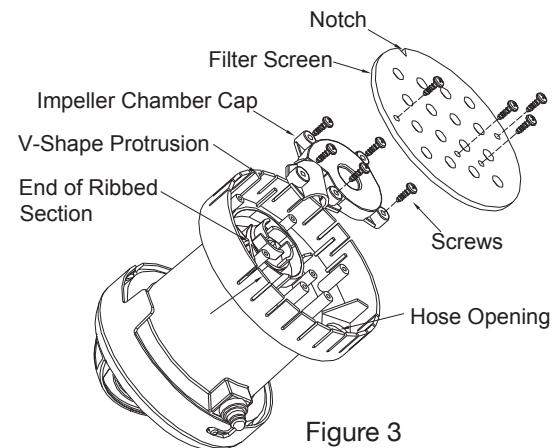

Figure 3
2. Remove the impeller chamber cap by removing all four screws. Remove all possible debris (See Fig 3).